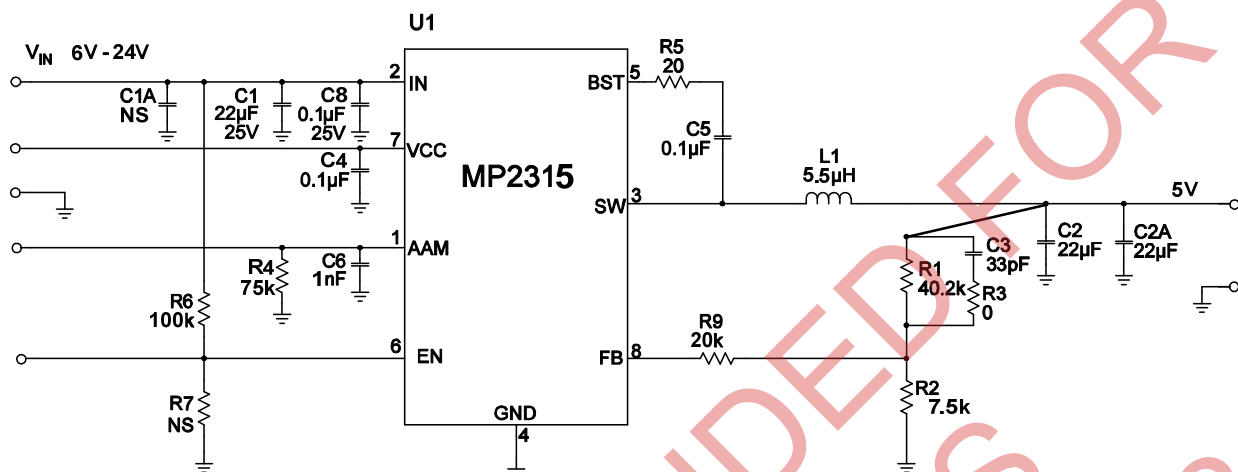

Figure 9: $V_o=5V$, $I_o=3A$
- 6) The recommended layout is based on the Figure 9 Typical Application circuit on the next page.
The detailed application schematics are shown in Figures 9 through 14. The typical performance and circuit waveforms have been shown in the Typical Performance Characteristics section. For more device applications, please refer to the related Evaluation Board Datasheets.